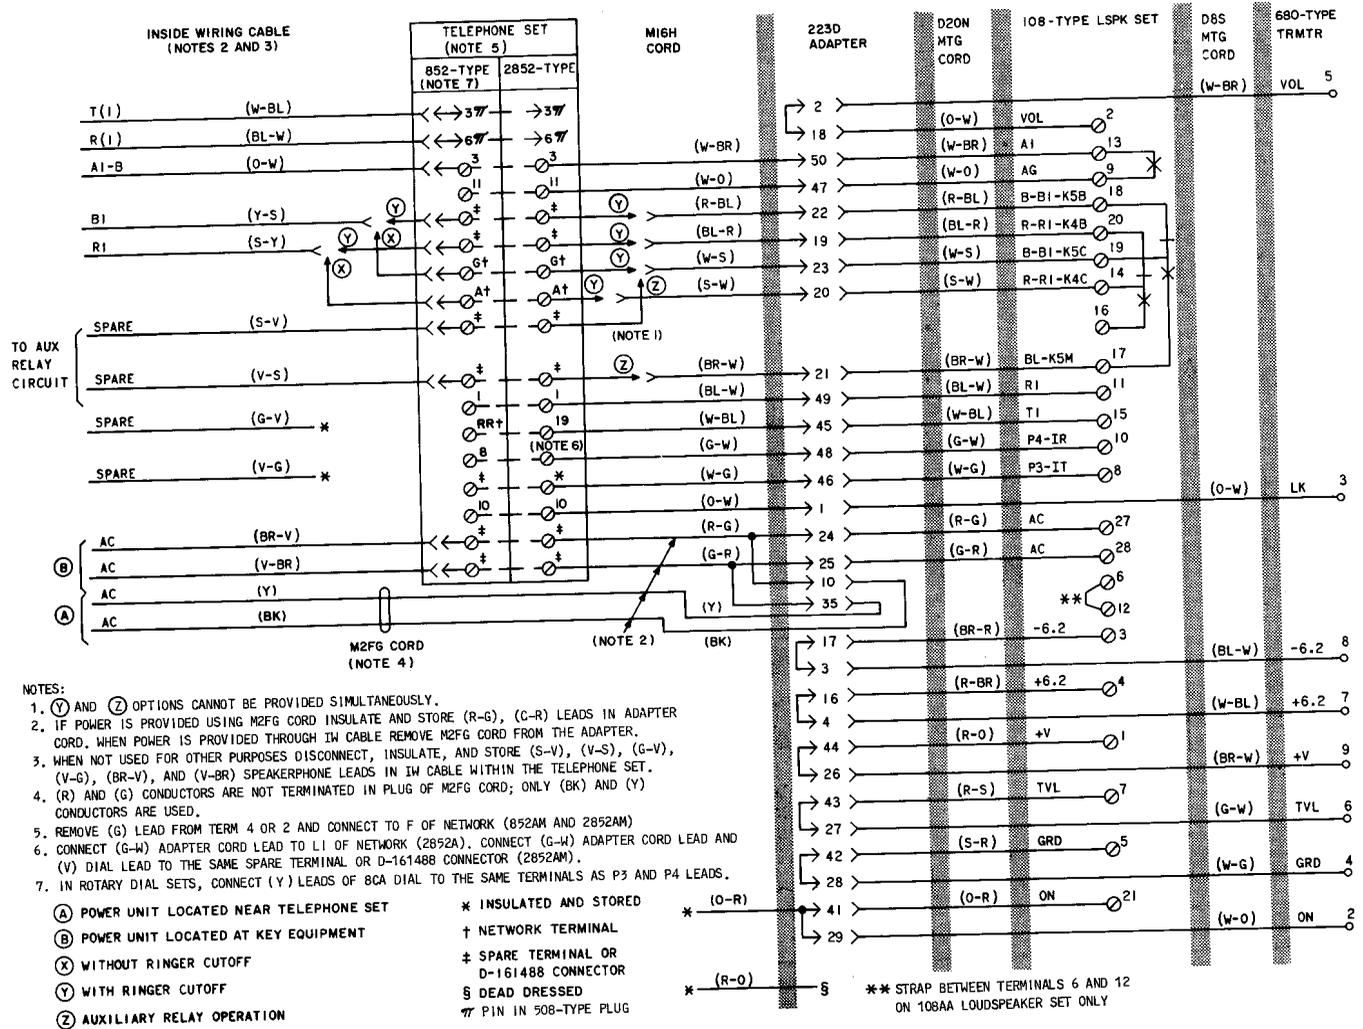

Fig. 2—4A Speakerphone System Connections, Connections to 852- and 2852-Type Telephone Sets
- Revise Fig. 2.
2.03 **Ringer Cutoff** can be provided by connecting ringer leads as shown in Fig. 2. Ringer cutoff provides cut off of the telephone set ringer through the loudspeaker set relay contacts while on speakerphone.
2.04 **Auxiliary Relay** feature provides a contact closure for operation of an auxiliary relay key telephone unit when it is desired to cut off several signals (Fig. 2).